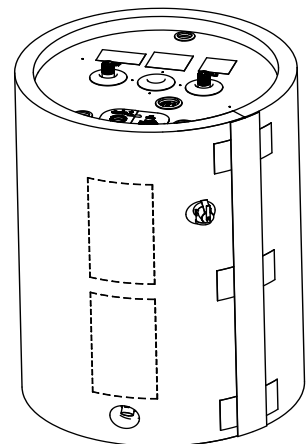

Figure 3
3. Apply a strip of tape 32" long over entire length of seam, as shown in Figure 3.